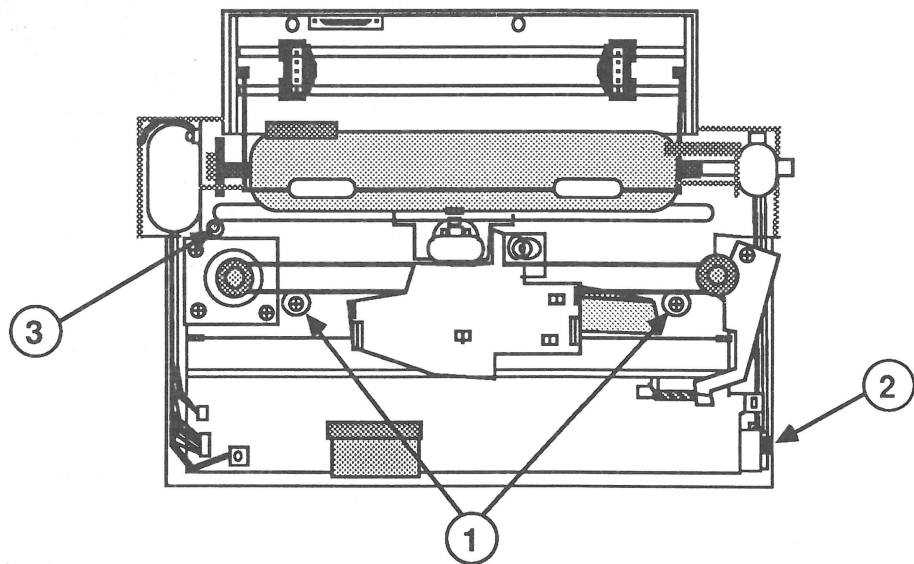

FIGURE 25
8. Remove the two mounting screws (Figure 25, #1).
Note: If the mechanical assembly has a third mounting screw (Figure 25, #3), remove it also.
9. Lift the right side of the mechanical assembly, and disconnect the two plug connectors (Figure 25, #2).
2. Tilt the mechanical assembly into the plastic case. Keep the right side lifted and connect the two plug connectors (Figure 25, #2). Make sure the assembly sits under the three white plastic tabs on the rear of the case. Make sure all wires and cables are routed correctly. Check for any crimped wires or cables. Slide the mechanical assembly into the plastic case. Line up the screw holders.
3. Replace the two screws (Figure 25, #1).